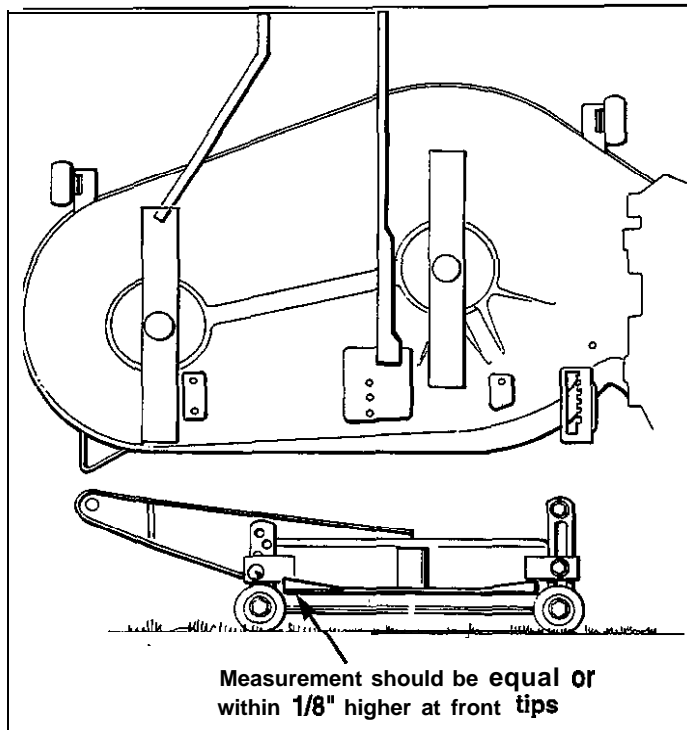

Figure 26. Leveling the Mower Deck Front-to-Back
6. Arrange the blades so they face front-to-back (figure 26).
7. See figure 26. Measure the distance from the ground to the front and rear tips of each blade. The measurement should be equal for both blades. Front tips should be equal to rear tips or within $\frac{1}{8}$ " higher. If not, proceed to step 8.